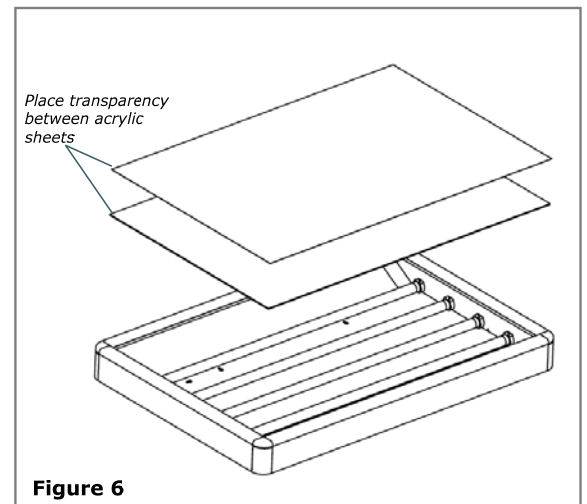

Figure 6
6. Insert transparency and transparency assembly. **See Figure 6.**
3. Place the transparency between the white diffusion panel on the bottom and clear plastic sheet on top (if ordered). **See Figure 6.**